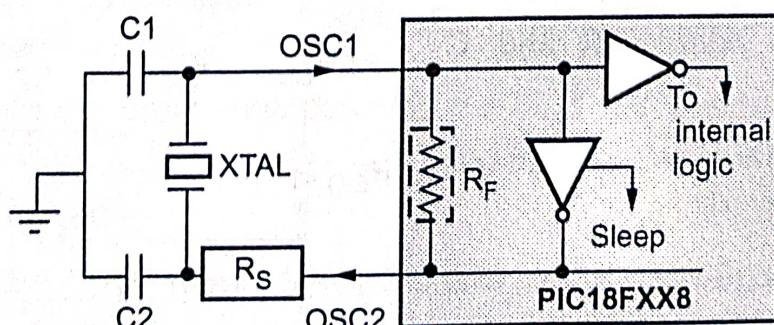

Fig. 2.9.1 Crystal/ceramic resonator operation
- In XT, LP, HS or HS4 oscillator modes, a crystal or ceramic resonator is connected to the OSC1 and OSC2 pins to establish oscillation, as shown in Fig. 2.9.1. For these configurations, we can also connect an external clock source to OSC1 pin, as shown in Fig. 2.9.1.